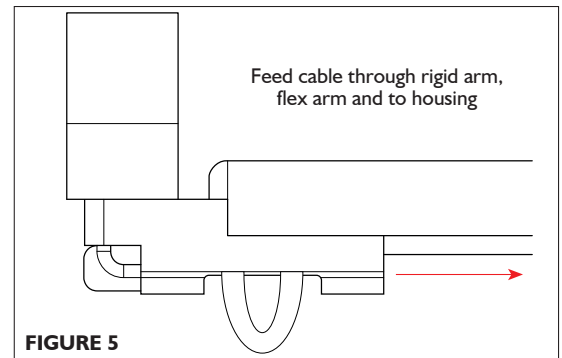

FIGURE 5
10. Using the fish tape, gently pull the light cord up through the light post and through the flex arm into the housing. Disconnect the fish tape. **Figure 5**